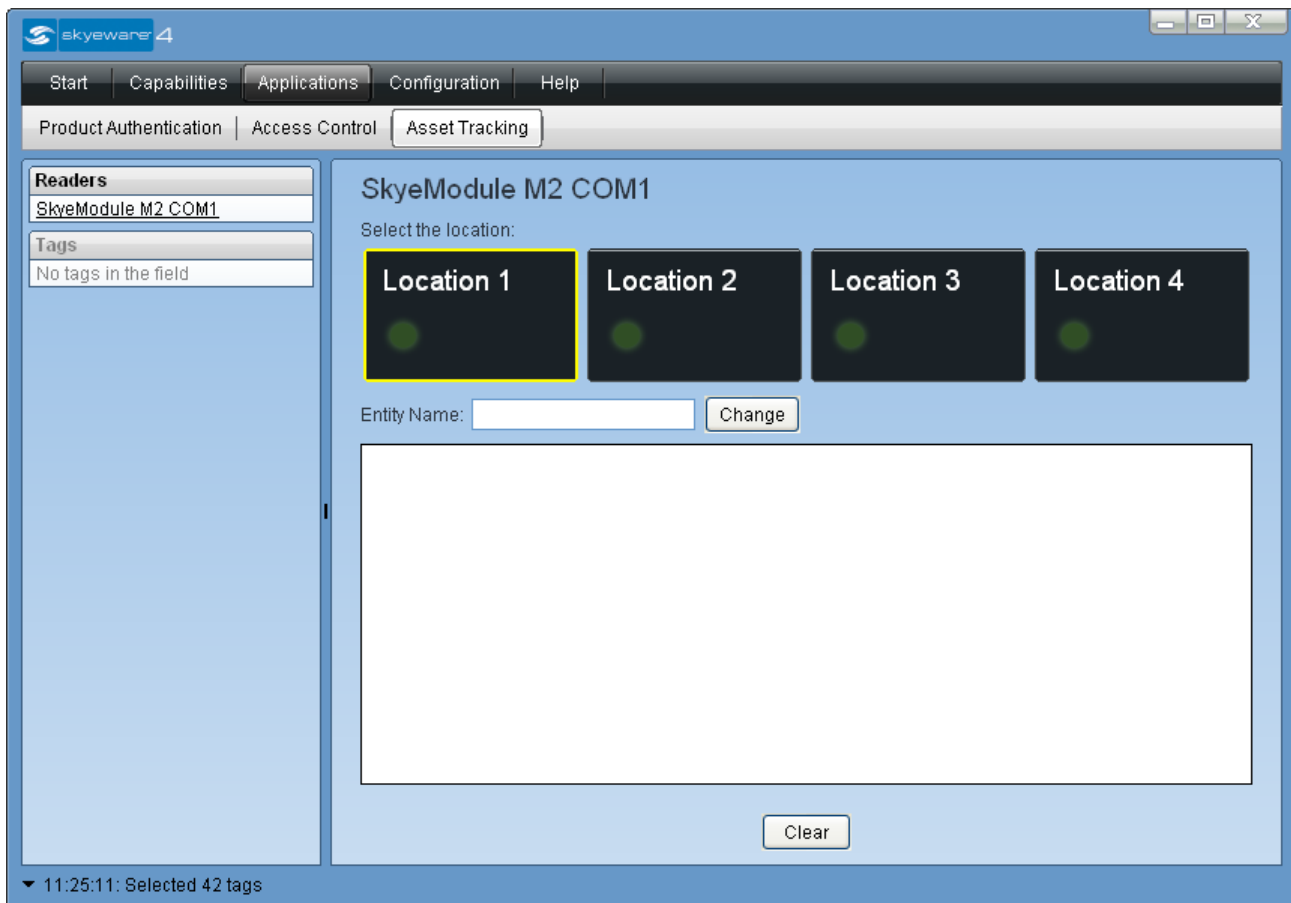

Figure 4-4 Asset Tracking Application
2. Click on the Location 1 box. The green light glows and the tag is listed by its TID in the Entity Name field. (Figure 4-4).